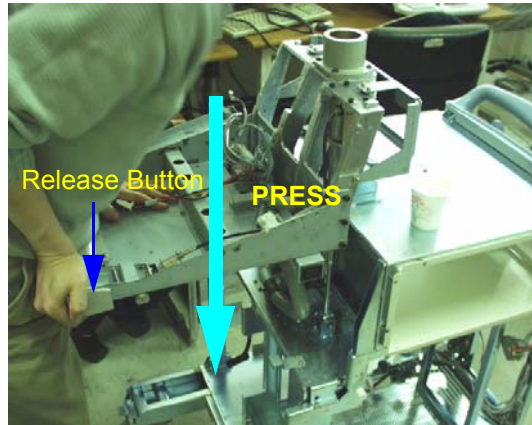

Figure 8-80 Lowering the OP Frame
- 1.) Lower the OP Frame down to its lowest position. Refer to Figure 8-80 on page 8-61 .